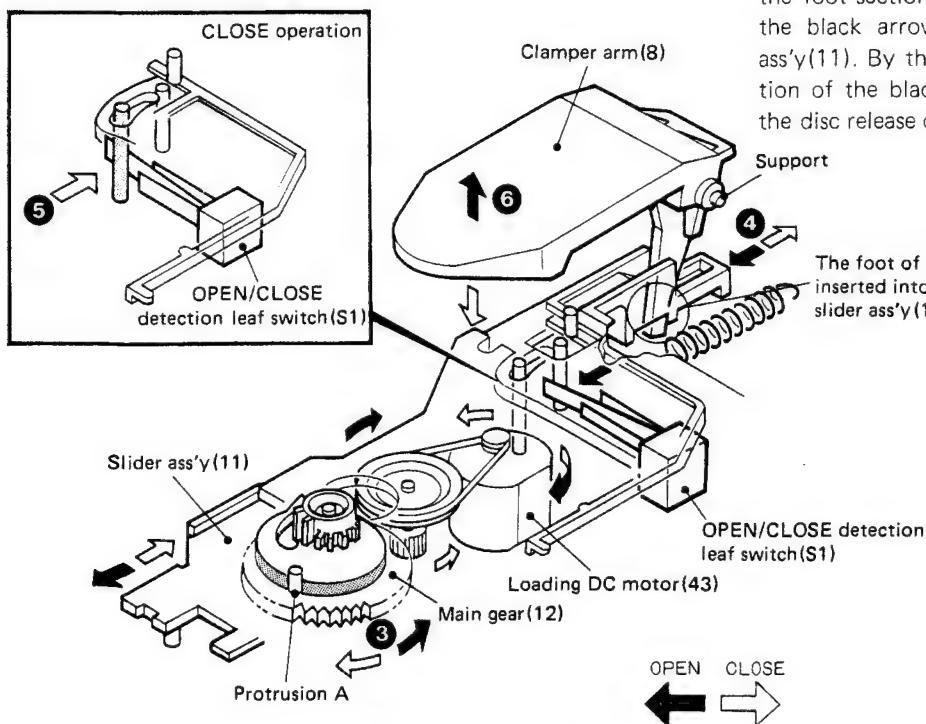

Fig. 3 Clamper arm operation
Fig. 3 shows the movement of protrusion A of the slider ass'y (11) in the direction of the black arrow 4 until the tray is completely opened.